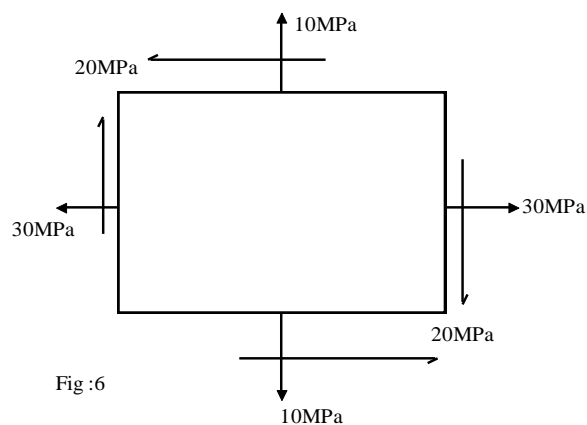

Fig :6
12. For the stressed element as shown in Fig. 6 find the following. 14